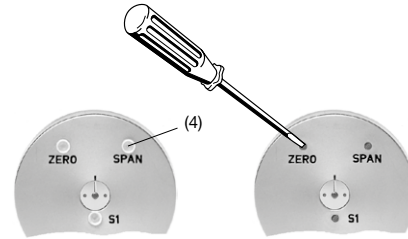

Fig. 12 Adjustments «ZERO», «SPAN» and «S1».
Remove the ZERO/SPAN sealing plug (4) (Fig. 12, left). Place the measured device at its zero position, i.e. the position at which the KINAX 3W2 should produce 0 mA (3- or 4-wire connection) resp. 4 mA (2-wire connection) at its output.
Then adjust the "ZERO" potentiometer (Fig. 12, right) using a watchmaker's screwdriver (2.3 mm diam.) so that the desired output current flows.
A switch is provided on angular transmitters with a measuring range > 150° for reversing the direction of rotation. It is marked S1 and can be operated through the opening in the rear part of the transmitter (Fig. 12).